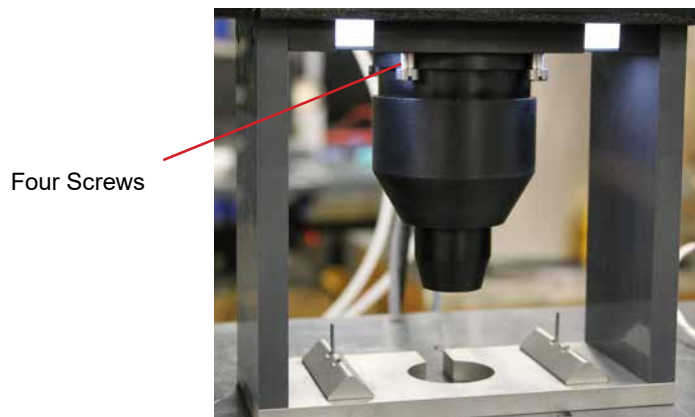

Figure D.1 - Load Frame Screw Location
1. There are four screws securing the shroud to the load frame (Figure D.1). Loosen the back two screws slightly, and completely remove the front two screws. This should allow you to remove the shroud from the frame.